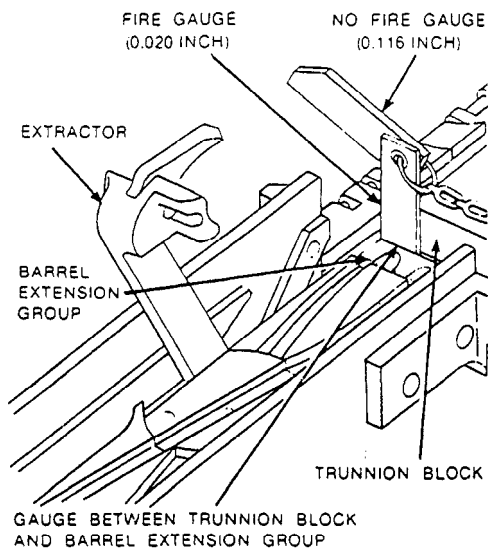

Figure 13-51.—Checking the timing with the fire gauge installed.
4. Retract the recoiling parts enough to insert the FIRE (.010 inch) gauge. Place it between the barrel extension and trunnion block (fig. 13-51).